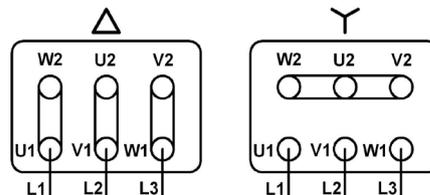

Fig. 2
- Check the insulation resistance of the motor winding and carry out connection to power grid - when there is no power - in accordance with the indications on the plate. Usually three-phase, electric motors allow for the use of 2 different voltage values and 2 different, interdependent frequency values corresponding to 2 different types of connection (triangle Δ or star Y) between the motor terminals and the electric network (ref. to fig. 2).
- per i motori trifase, scambiare fra loro 2 dei 3 cavi di alimentazione L1, L2, L3 (vedi fig. 2);
- for three-phase motors: interchange any two phases L1, L2, L3 of the power cables (ref. to fig. 2);